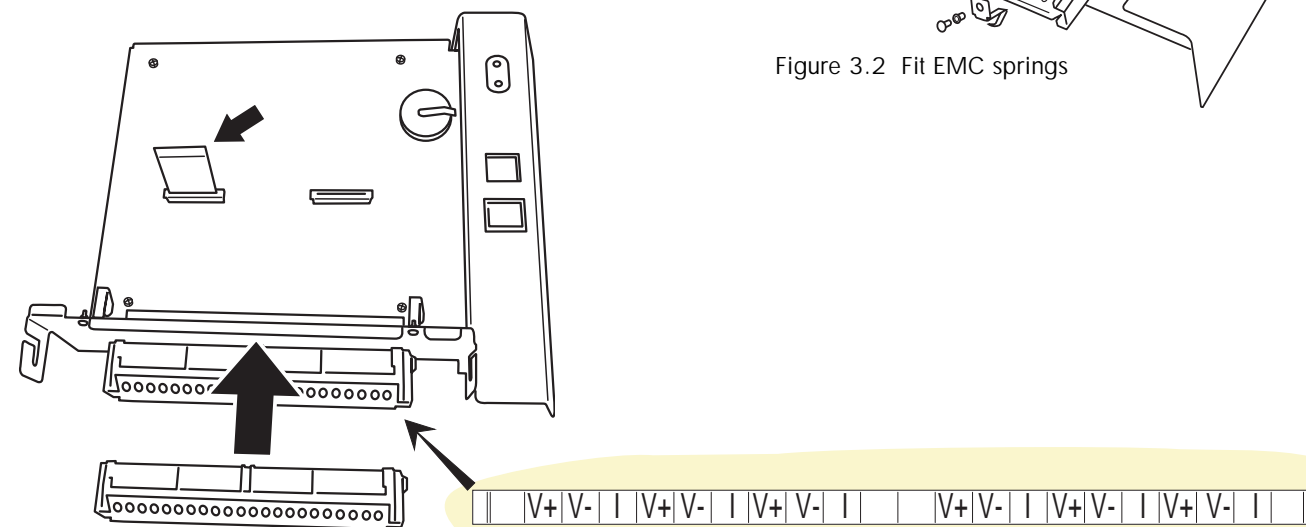

Figure 3.3 Fit connector and label (if not already fitted)
4. Fit the connector as shown in figure 3.3. Fix the relevant self-adhesive label to the connector.
5. Remove the self-adhesive protective film tab from the left-hand, on-board connector and fit the flexi-cable (figure 3.3), with the insulated side towards the latching bar of the connector.